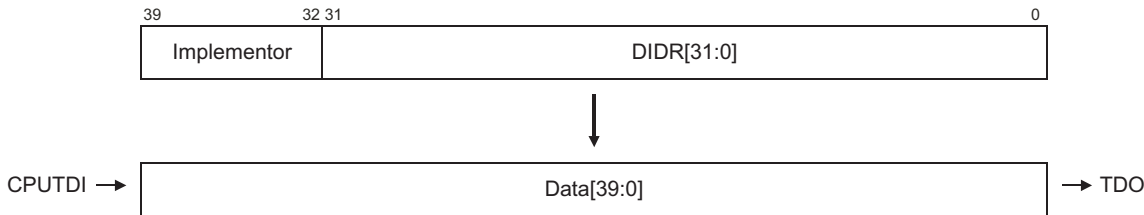

Figure 13-6 Scan chain 0 bit order
**Order** Figure 13-6 shows the bit order in scan chain 0.